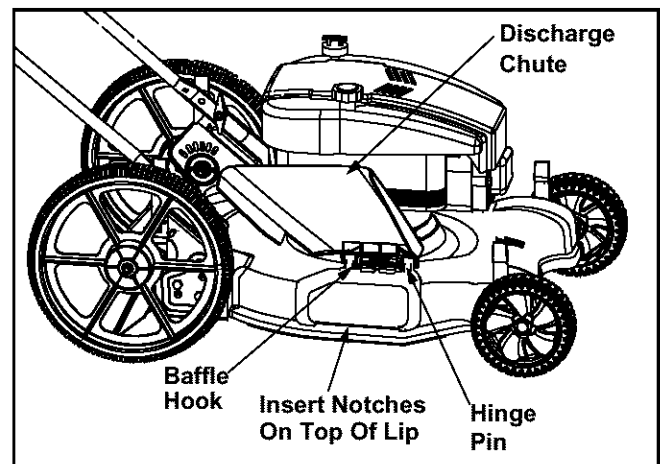

Figure 8
- Lift up the side discharge chute and insert the mulching baffle so that the notches at the bottom of the baffle sit firmly on the lip of the deck opening. See Figure 8.